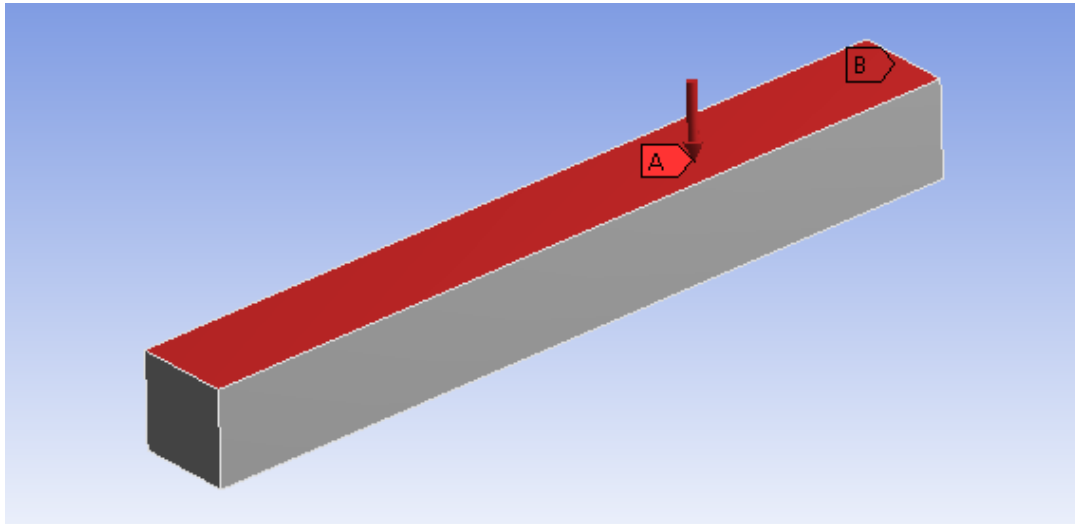

Figure 1: Cantilever beam subjected to uniform load of 50000N
To explain calling *Python scripts* in *Abaqus*, I am considering example of parametric study of simple 'Cantilever Beam' of square cross section with length and width = 30m, depth=250 m which is subjected to uniform load of 50000N as shown in *Figure 1* below ('A' refers surface upon which load is subjected uniformly and surface 'B' refers to fixed surface). Here I am conducting parametric study by varying Material parameters like Young's Modulus(E) and Poisson's ratio (ν).